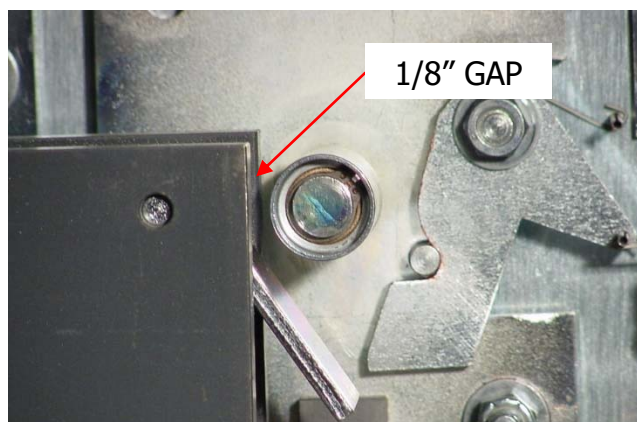

FIGURE 8
8. There must be a 1/8" gap between the lockhead roller and the travelbar assembly (Figure 8). The mounting bolts can then be fully tightened. **When properly adjusted, the door will hang past the VLC by approximately 1/4" and the VLC rod will slip into the notch in the door guide angle attached to the bottom of the door.** It is recommended that once the door is appropriately adjusted, the door hanger may be tacked to the travelbar, which prevents the door from being moved out of adjustment from abuse or being blocked.